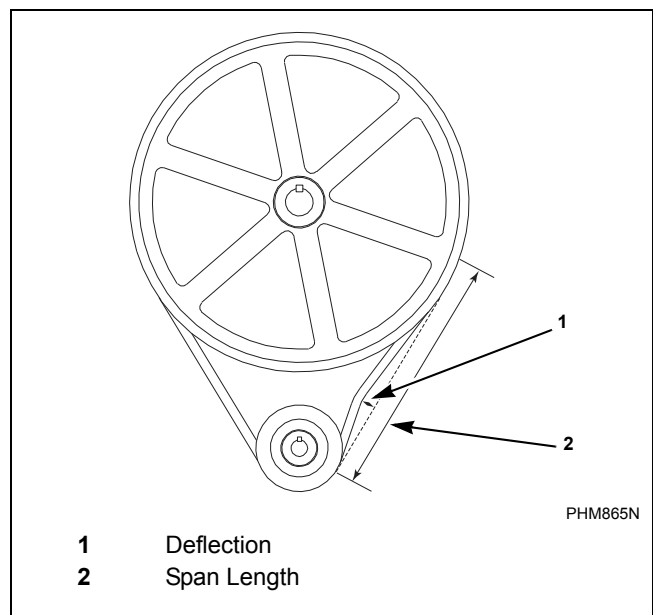

Figure 38
- **Deflection.** Refer to *Figure 38*. Belt tension measurements should be taken as close to the center of the belt span as possible. For every inch of span length, the belt should deflect 0.40 mm ( $1/64$  inch). Thus, a belt with span length of 25 inches should deflect 9.9 mm ( $25/64$  inch).